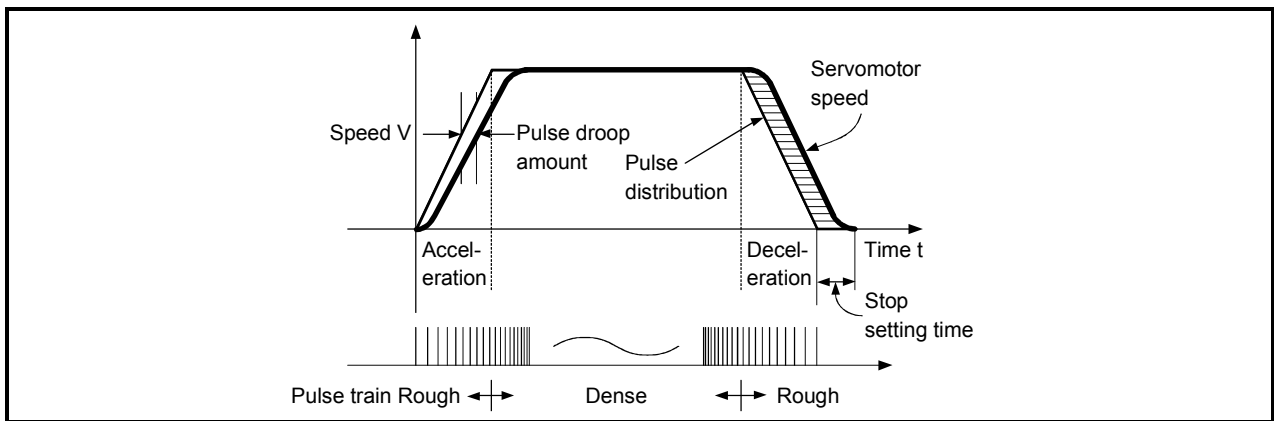

Fig. 1.3 QD70 output pulses
- 1) As shown in Fig. 1.3, the pulse frequency increases as the servomotor accelerates. The pulses are sparse when the servomotor starts and more frequent when the servomotor speed comes close to the target speed.